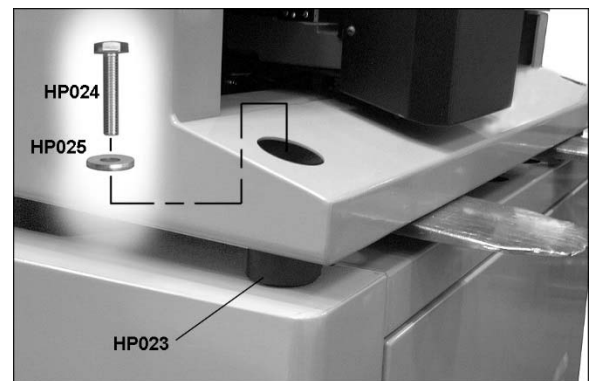

Figure 7-17
2. Place rubber foot pads (HP023, Figure 7-17) over holes in stand.
4. Remove straps and insert four screws with flat washers (HP024/025, Figure 7-17) loosely to ensure hole alignment. Tighten screws.